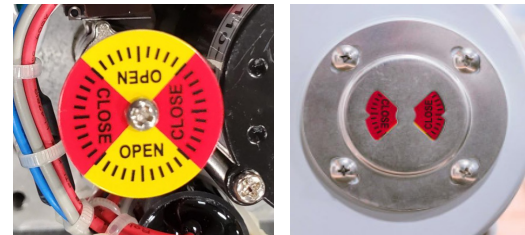
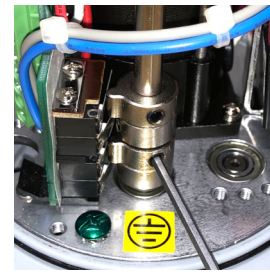

Fig 2 - Flat position indicator identifies the rotation angle of the actuator
Fig 3 - CW EOT Cam adjustment
1. The bare actuator normally ships in the full CW (Closed) position. This can be verified by observing the top-mounted flat position indicator before the top cover is removed. When in the full CW position, the color showing is RED and "CLOSE" is visible thru the window. (Fig 2)
- a. Use the bottom-mounted 8mm hex manual override shaft to drive the actuator out to about 15~20 degrees open, then back to the desired CLOSED (CW) position. If you have driven the device too far, you must drive back out to 15~20 degrees before again approaching the correct CW stop. You cannot set the stop when driving in a CCW direction due to cam dwell angle.
- b. Using a 2.5mm hex key on CAM #2 (Fig 3), loosen the cam setscrew and rotate the cam CCW by pulling the hex key to the RIGHT a few degrees. Lightly snug up on the setscrew until resistance is felt against the cam shaft. Pull the hex key to the LEFT SLOWLY until you hear a "click" from the associated (#2) cam switch and snug up on the cam setscrew. Do not move the actuator. Do NOT overtighten the cam setscrew.